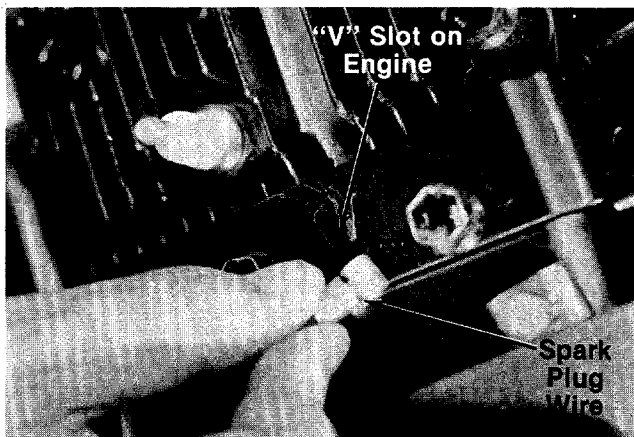

FIGURE 9.
3. Disconnect the spark plug wire from spark plug to prevent accidental starting. Secure end of spark plug wire in the "V" slot on the engine. See figure 9. With the clutch lever in neutral position, pull starter cord several times. **The tines should not turn.** If they do, remove the hairpin cotter and remove the control rod from the clutch lever. Thread the control rod in or out of the ferrule as necessary. Replace and check again for correct adjustment.